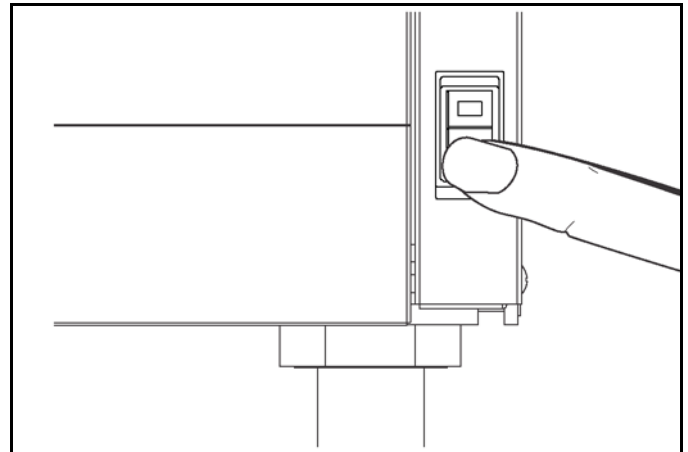

Figure-136
45. Place the fan interlock switch in the OFF position if the restaurant is closing; otherwise, return it to the appropriate setting for cooking. See Figure-136.